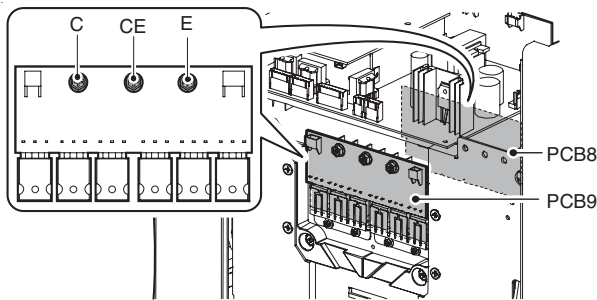

Figure 6-16: Tester checkpoints in the Q1-Q12
3. Refer to Table 6-7 and Figure 6-16 for the checkpoints on PCB8 and PCB9.